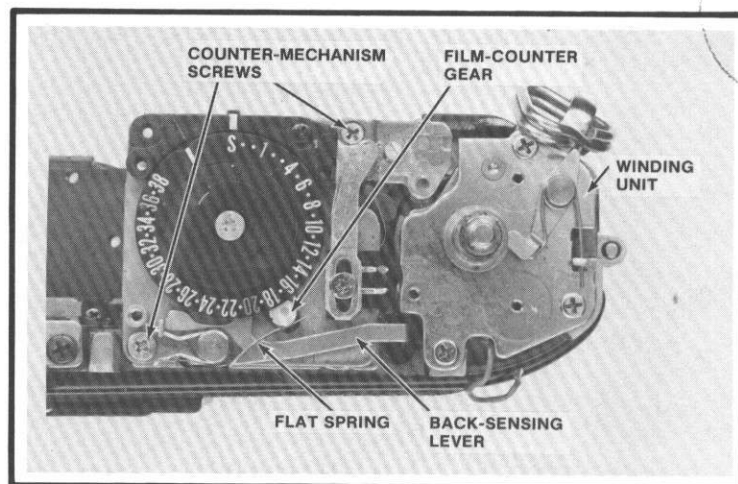

Figure 68
8. Remove the 3 screws holding the winding unit, Fig. 68.
10. Remove the 2 screws holding the counter mechanism, Fig. 68.
11. Lift the counter mechanism off the camera body. The film-counter gear, Fig. 68, remains with the shutter assembly.
11. Replace the winding unit and the counter mechanism, Fig. 68. Note in Fig. 68 that the upper end of the film-counter gear fits between the counter dial and the flat spring. The flat spring pushes the film-counter gear into engagement with the counter dial when you close the camera back.